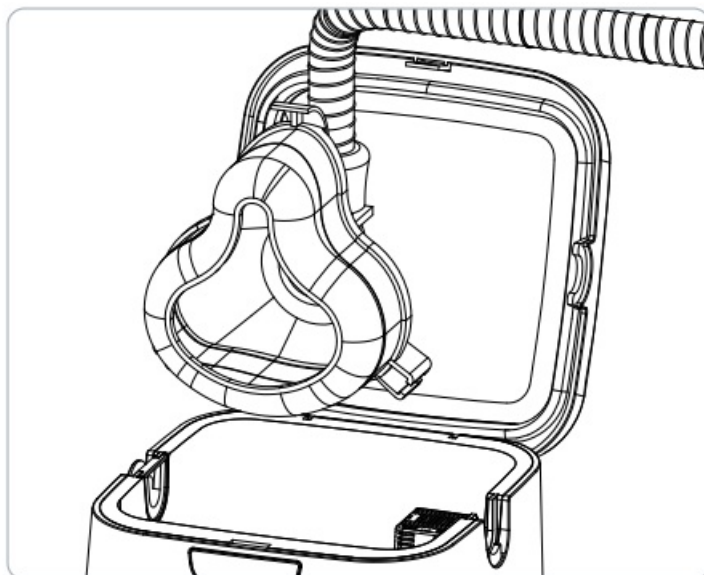

Figure 7. Put PAP mask into Disinfecting chamber
4. Insert your mask into the Disinfecting chamber, allowing its attached PAP hose to rest in the open hose slot, opposite the Removable hose slot plug (Figure 7).
6. Insert your mask into the Disinfecting chamber, allowing its attached PAP hose to rest in the open hose slot, opposite the Removable hose slot plug (Figure 7).